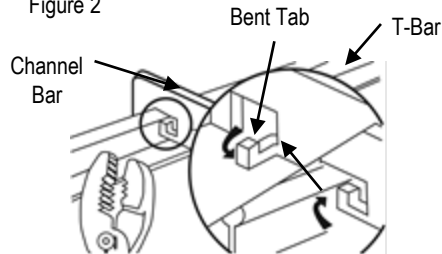

Figure 3
4. Locate the T-bar slots near the ends of the bar hangers, bend the tabs out at a 45-degree angle from the bar hanger at each end. Snap the bar hangers over the ceiling T-bars for a secure fit. (See Figure 3.)